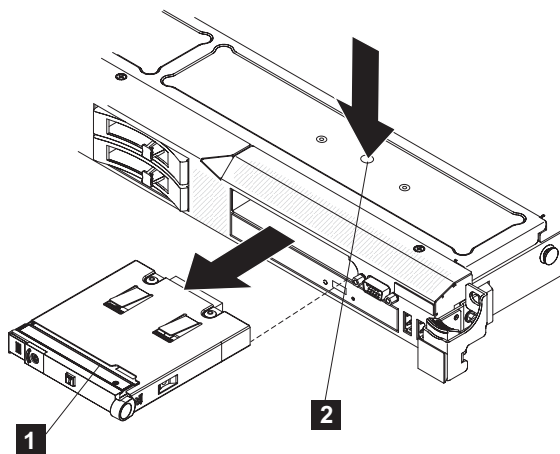

Figure 205. Using the release tab to remove the SAN Volume Controller 2145-CF8 operator-information panel
7. Use an object to push down on the release tab ( **2** in Figure 205).